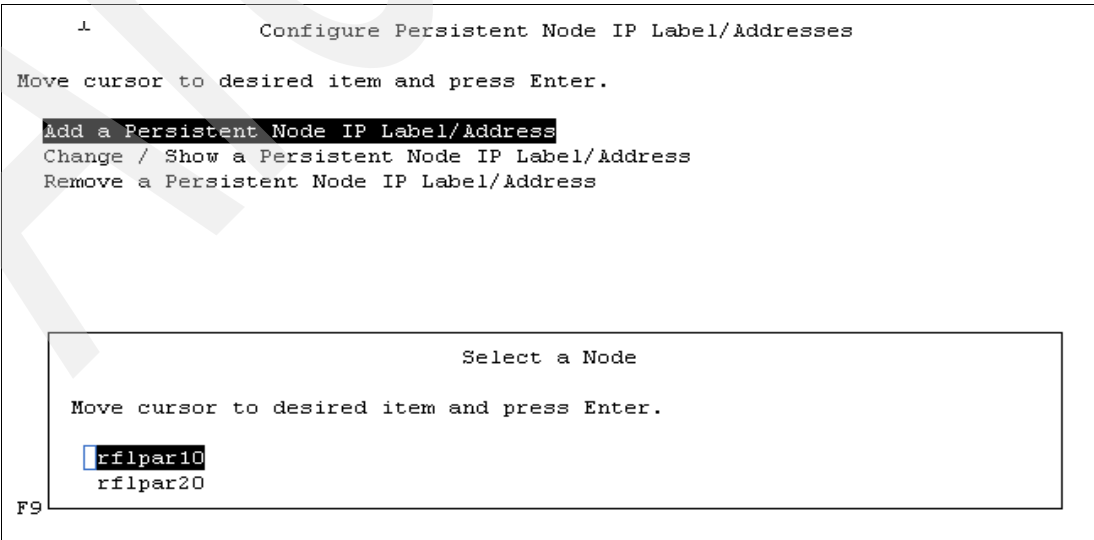

Figure A-7 Node selection dialog
6. At this point, you can synchronize the cluster. But first, in this example, we also add persistent IP addresses before synchronizing the cluster. On the Cluster, Nodes and Networks menu, select **Manage Nodes** → **Configure Persistent Node IP Label/Addresses** → **Add a Persistent Node IP Label/Address**. Select a node and press Enter. Figure A-7 shows a Configure Persistent Node IP Label/Addresses window.